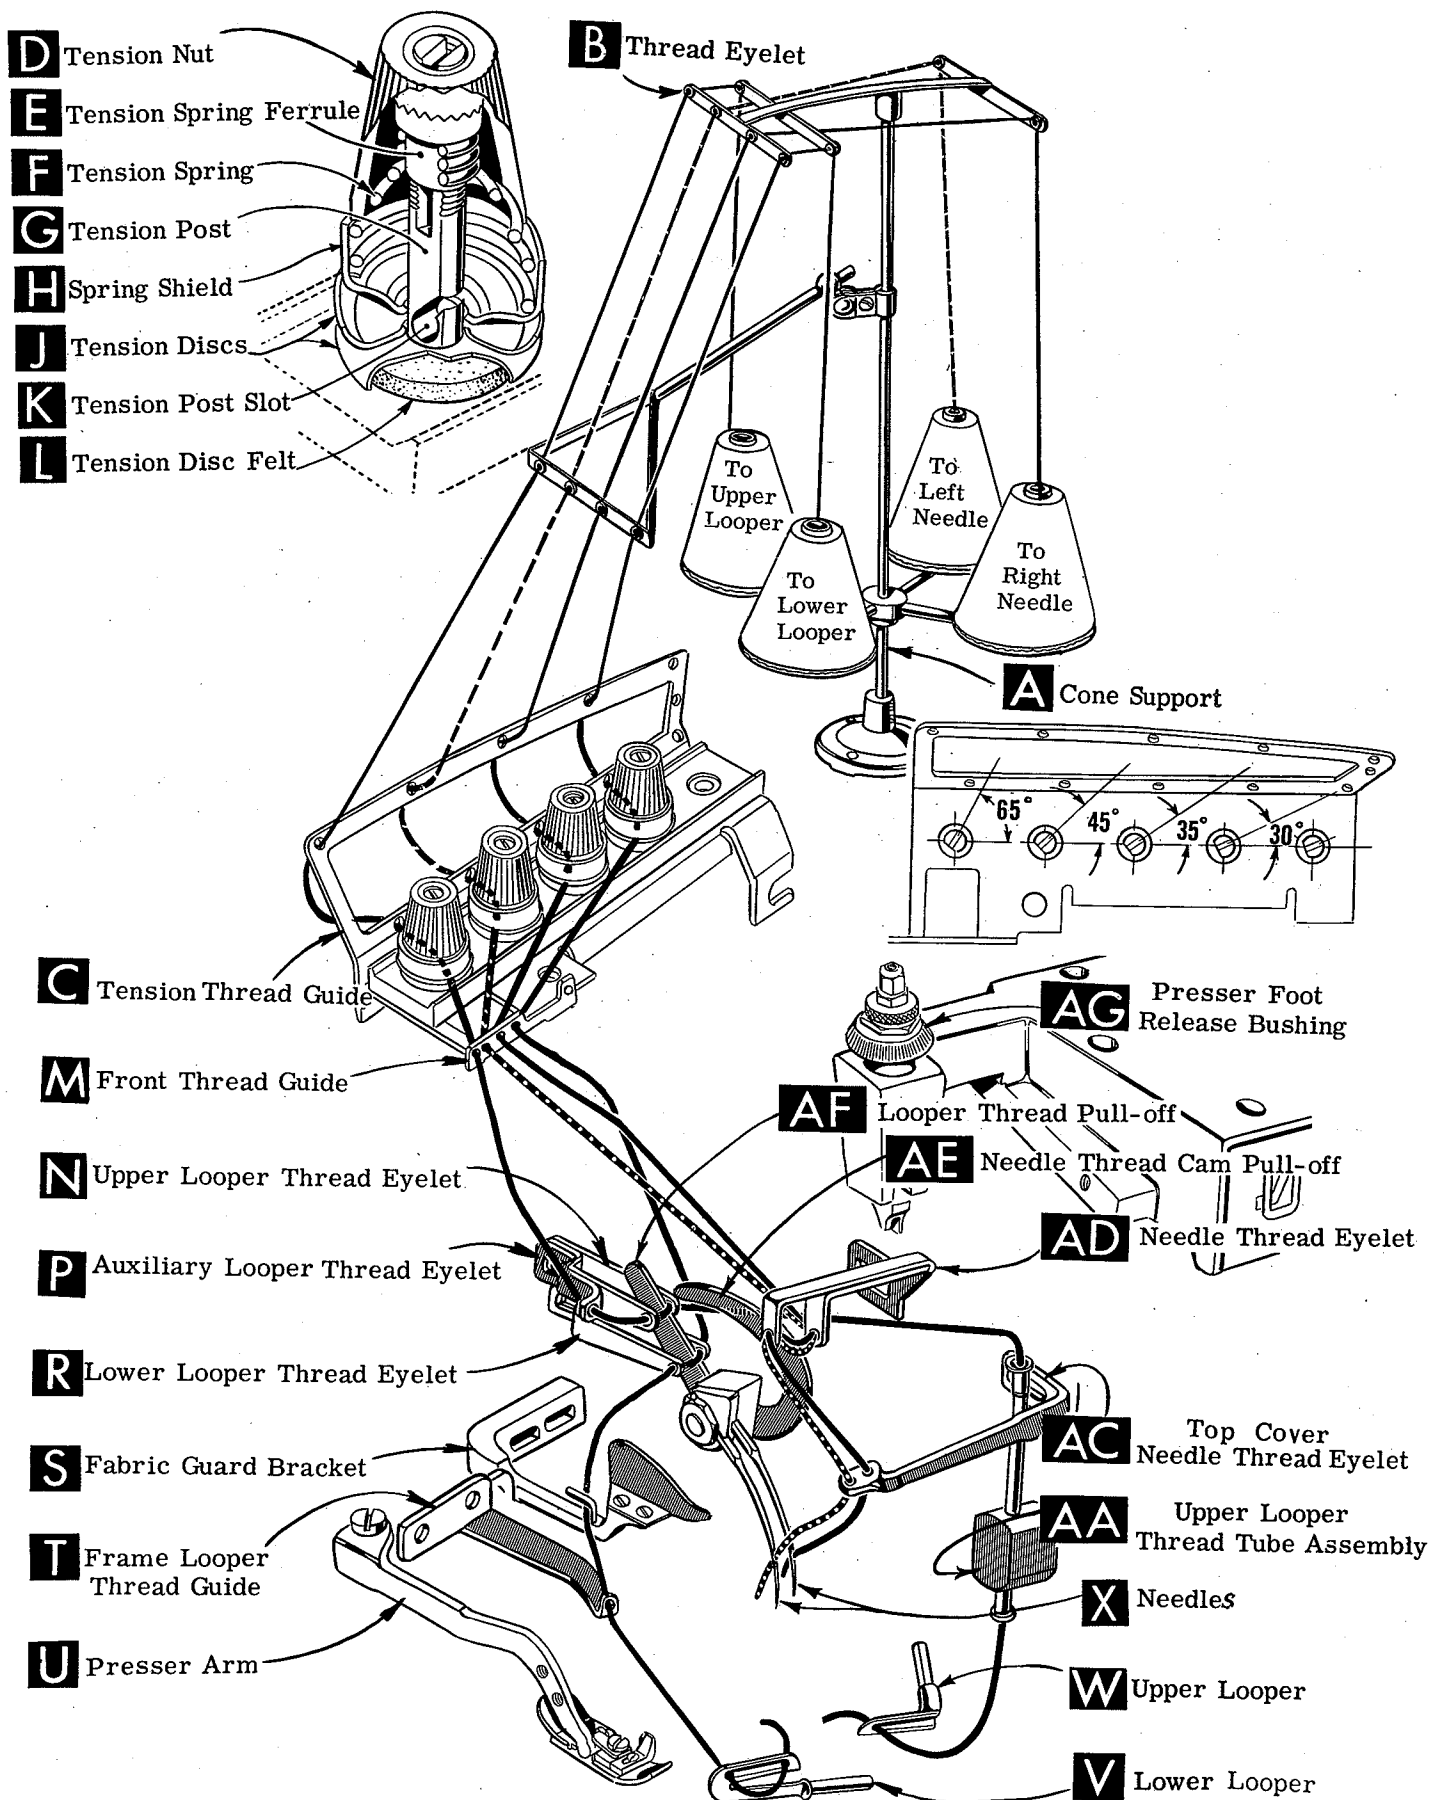

Fig. 1
Release pressure on presser foot by turning presser foot release bushing (AG, Fig. 1) and swing presser arm (U) out of position. Turn handwheel in operating direction until needles are at their lowest point of travel. Using hexagonal socket wrench No. 21388 AU, furnished with machine, loosen needle clamp nut about 1/4 turn. Again turn handwheel until needles are at high position. Withdraw needles.
After thread comes from cones on cone support (A, Fig. 1), the needle threads are threaded through the back bar of the thread eyelet (B), under the middle bar and through the center holes of the front bar. The looper threads come from the cones, through holes of the middle bar from back to front and then through the two outside holes of the front bar. Next it is threaded through the upper holes of tension thread guide (C) front to back and then through the lower holes from back to front. The threads continue between the tension discs (J), through tension post slot (K) in tension post (G) and on through front thread guide (M).
Only parts involved in threading are shown in the threading diagram (Fig. 1). Parts are placed in their relative positions for clarity.
Be sure threads, as they come from the tension thread guide (C) are between tension discs (J) and in diagonal slots (K) in tension posts (G). The tension posts should be positioned so the tension post slot will be at the approximate angle for the different threads as indicated in Fig. 1.
Double end of thread and lead it through both eyes of lower looper thread eyelet (R, Fig. 1) from right to left. NOTE: thread must pass in front of looper thread pull-off (AF). Lead thread behind fabric guard (S) and through eyelet hole of frame looper thread guide (T). Turn handwheel in operating direction until heel of lower looper (V) is all the way to the left; then thread through both eyes from left to right. Left eye of lower looper can be threaded easily if tweezers are in left hand.
The amount of tension on needle and looper threads is regulated by tension nuts (D, Fig. 1). Tension on threads should be only enough to secure proper stitch formation.
Be sure machine is threaded according to threading diagram (Fig. 1). With thread tensions light, set looper thread eyelets (N & R) about horizontal and in the middle of their front to back locations. Operate machine slowly, without presser foot in place, to make sure that chain forms and moves off the tongue freely. Swing presser foot into position, insert material, and sew slowly.
While sewing on material, check needle thread control as follows: Usually all needle thread is drawn on needle down stroke. At top of needle stroke, thread should be just tight enough to feed chain off stitch tongue. Stitch tends to pull down slightly if excessive thread is pulled on the up stroke. With needle at bottom of stroke, position needle thread eyelet (AD, Fig. 1) so that needle cam pull-off (AE) just contacts needle thread.
With material under presser foot, set lower looper thread eyelet (R, Fig. 1) back far enough so thread is a little slack when looper thread pull-off (AF) reaches its most rearward position. Looper thread pull-off (AF) is set about $1/8$ inch distance behind needle thread cam pull-off (AE). Frame looper thread guide (T) should be set with its eyelet approximately $1/8$ inch to the right of lower looper (V) heel eyelet at the time lower looper is at extreme left end of its travel.